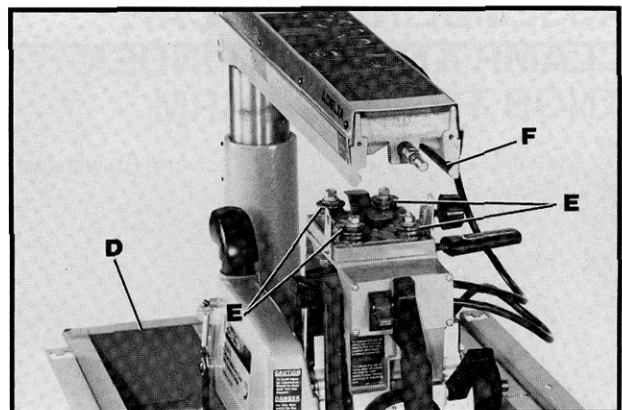
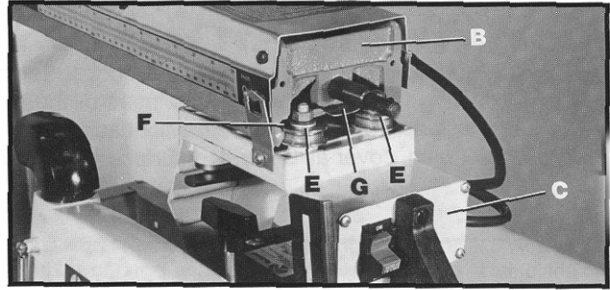

Fig. 5
Fig. 6
3. Carefully lift cuttinghead assembly (C) Fig. 5, straight up off the saw base (D). Align four roller bearings (E) Figs. 5 and 6, with two inner track channels (F) of track arm.
4. Press down on spring stop (G) Fig. 5, and carefully slide cutterhead assembly (C) into track channels (F). **IMPORTANT:** Before releasing cuttinghead assembly (C) Fig. 6, make certain it will not roll forward in the track arm (B).